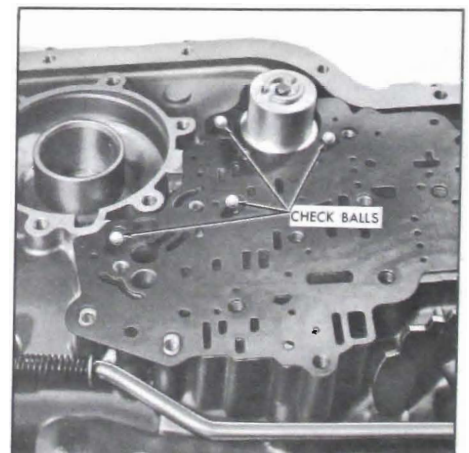

Figure 5-712
2. Install the valve body spacer to case gasket. (Gasket with tab.) See Figure 5-712.